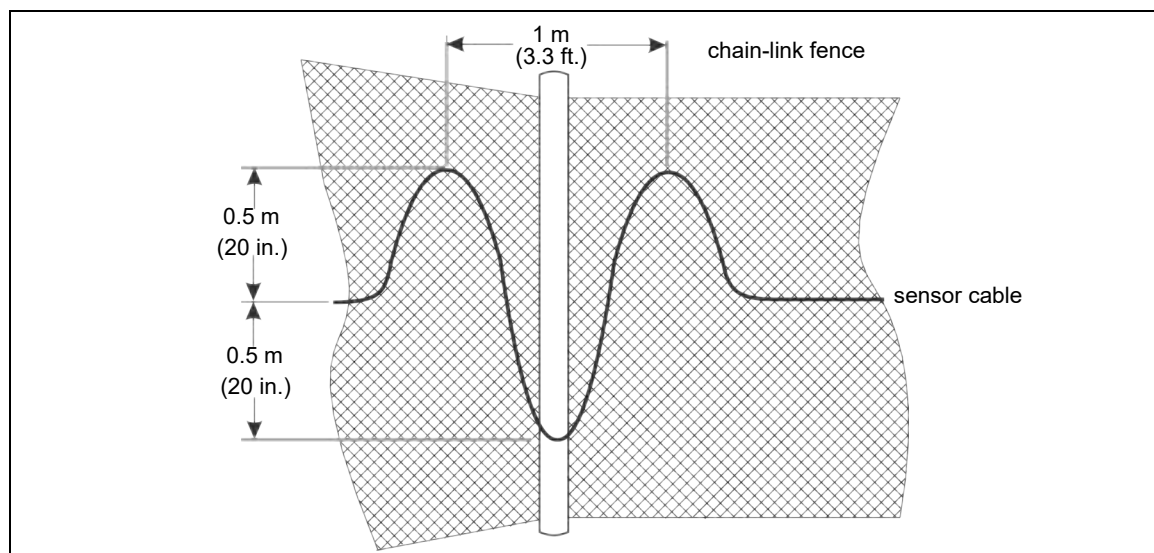
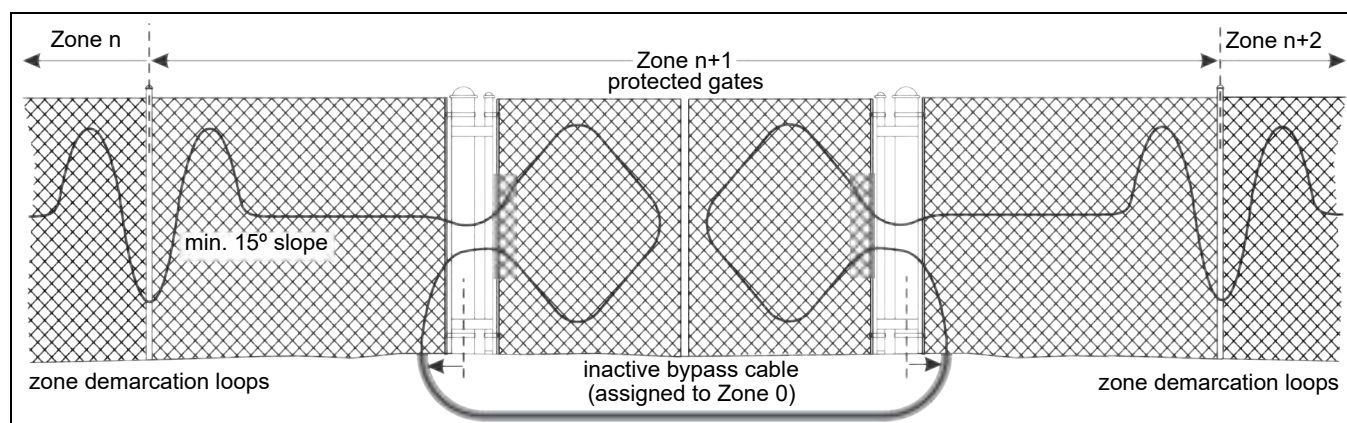

Figure 23: Sensitivity loops at corner and at heavy gauge posts
Figure 24: Optional Zone demarcation loops for software defined zone boundaries (protected gate access)
- Optionally, install zone demarcation loops at soft zone boundaries for increased zone isolation. The extra cable helps ensure that valid targets are located accurately in the correct zone. See Figure 23: for sensitivity loop and zone demarcation loop layout recommendations. See Figure 24: for an illustration of how to use zone demarcation loops.